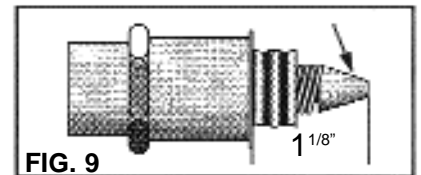

FIG. 9
3. On models with exposed pintle and shaft, measure the distance between the tip of the pintle and the end of the motor housing (Fig. 9). If the pintle on the new IAC motor is extended over 1-1/8 inch, it must be adjusted or damage to the IAC motor could occur upon installation.